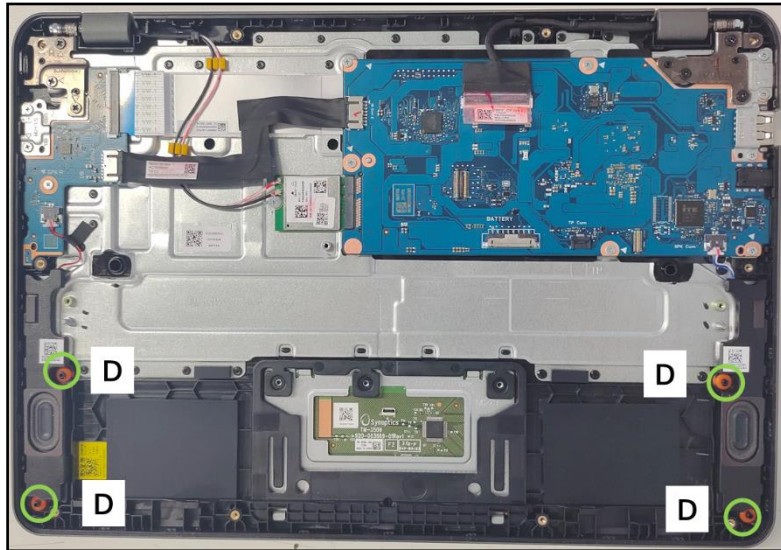

Figure 3-20. Speaker Module Removal
4. Lift the speakers to release them from the guide pins (D) (Figure 3-20). Then remove the speakers from the top assembly.